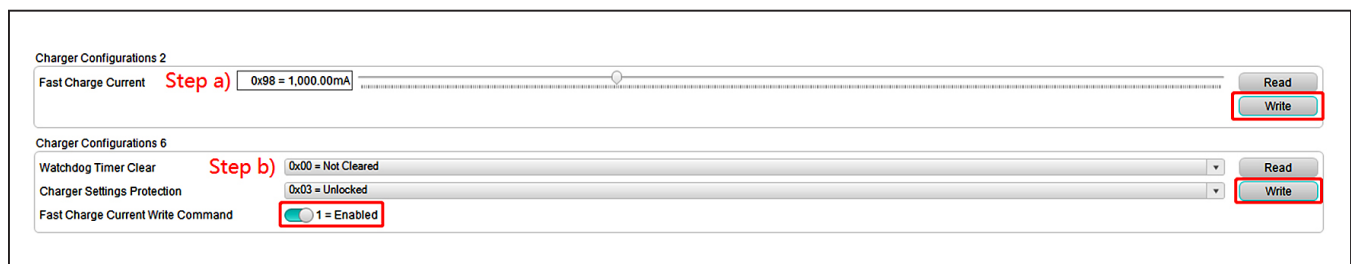

Figure 8. Write Fast-Charge Current
- 7) The 9-bit **Fast Charge Current** bitfield resides in two registers (**CHGCC\_MSB** of the **CHG\_CNFG\_04** register and **CHGCC[7:0]** of the **CHG\_CNFG\_02** register). To guarantee an atomic operation, a write-enable bit **CHGCC\_WR\_EN** is provided in the **CHG\_CNFG\_06** register. Writing 1 to this bit makes the value of the **Fast Charge Current** take effect. For changing the fast-charge current, perform the following steps (Figure 8):